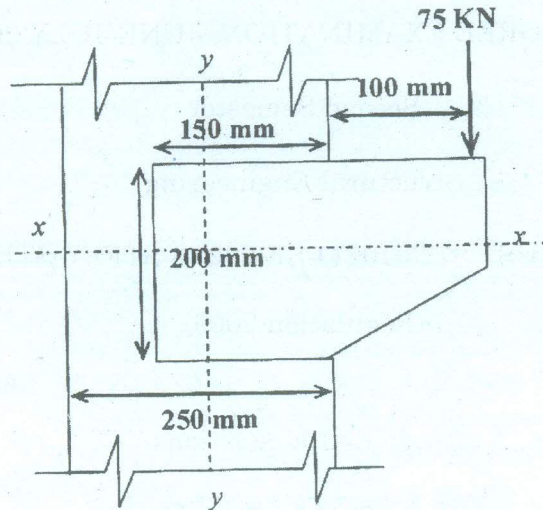

Fig.1
- (b) Design a stiffened seated connection between a main beam ISWB 600 and a secondary beam ISMB 450 on one side of the web of the beam. The secondary beam transmit a shear force or 300 kN. (16)
12. (a) A bracket is welded to the steel column 250 mm wide as shown in Fig 1. Calculate the length and size of the fillet weld. (16)